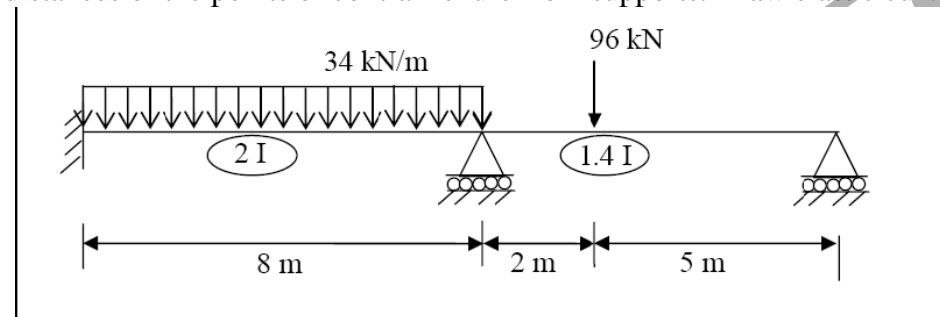

Figure 8
8. Analyze the continuous beam shown in Figure 8 using slope-deflection method, and draw shear force and bending moment diagrams. Locate and find the distances of the points of contra-flexure from supports. Draw elastic curve. [16]